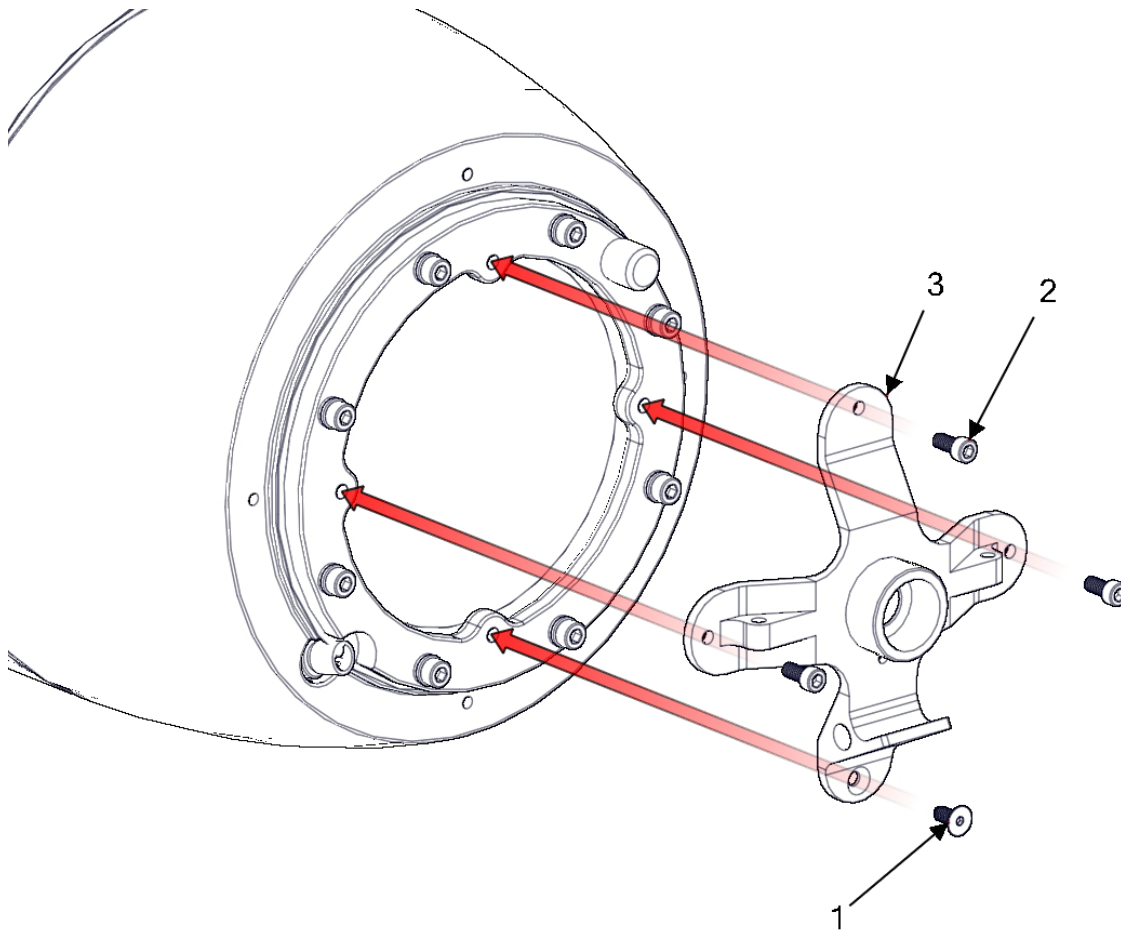

Figure 2-19 Recovery spool base (1000-meter).
1. Remove the single screw (Figure 2-19, Item 1).
2. Remove the three screws (Figure 2-19, Item 2).
3. Remove the recovery spool base (Figure 2-19, Item 3).
1. Position the recovery spool base (Figure 2-19, Item 3).
2. Install the three screws (Figure 2-19, Item 2).
3. Install the single screw (Figure 2-19, Item 1).